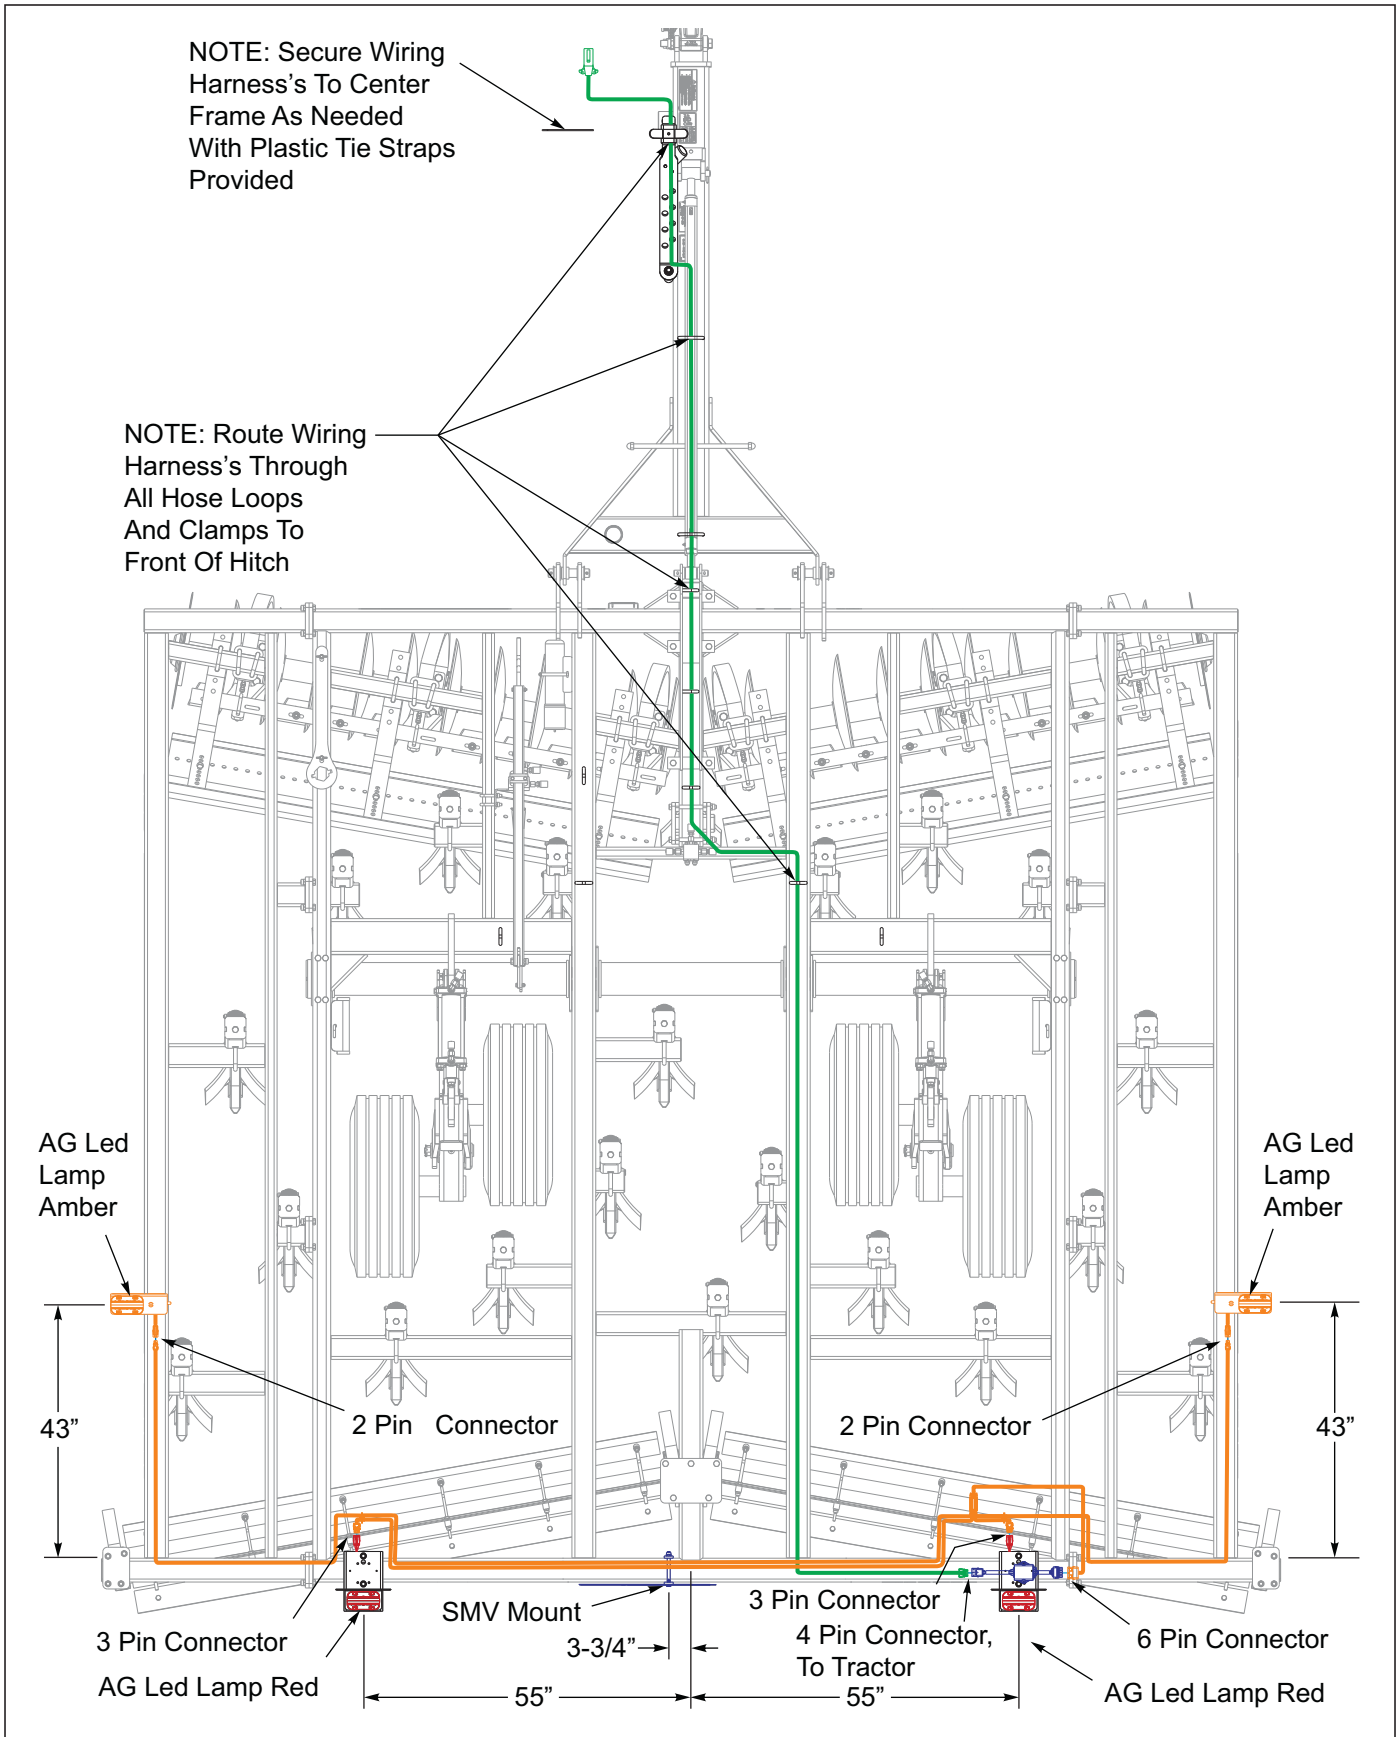

Figure 3-12: Light Brackets & SMV Placement
5. **See Figure 3-12** for light bracket placements.
11. **See Figure 3-12** for smv placement, wiring harness routing and connector locations.